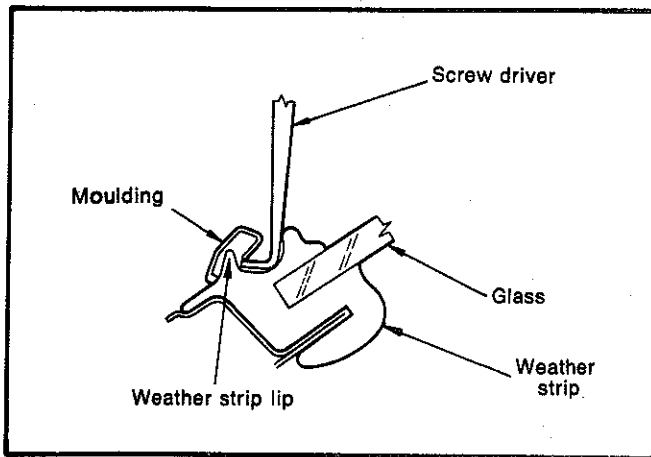

Fig. 29—Position of screw driver and moulding
(3) Insert the screw driver into the moulding groove of the weather strip and spread the weather strip as shown in Fig. 29.
(4) Press the end of the moulding into the spread weather strip, refer Fig. 29.